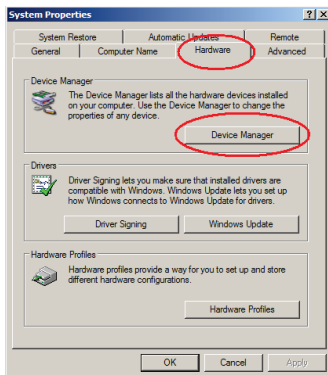
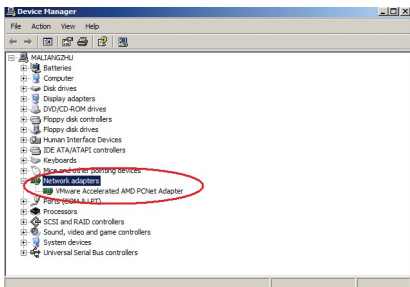
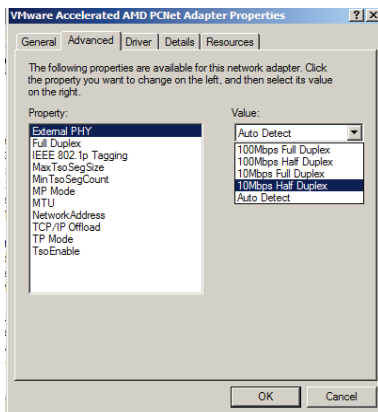

Fig. 10-4 Attribute Dialog Box
Fig. 10-5 Device Manager Dialog Box
Fig. 10-6 Network Hardware Configuration Dialog Box
Right click on My Computer, select Attribute, and the dialog box of figure 10-4 would pop up.
- (1) Select Hardware -> Device Manager shown in figure 10-4, and the device management dialog box as figure 10-5 would pop up.
- (2) Select Network Configurator -> D-Link DFE-530TX PCI Fast Ethernet Adapter(rev.c) as figure 10-5, and the network hardware configuration dialog box as figure 10-6 would pop up.
- (3) Select Advance -> Attribute -> Connection Type -> 10BaseT Full Duplex as figure 10-6 to set the network card as 10M.